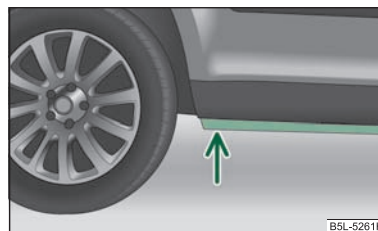

Fig. 158 Crossing bodies of water
- Determine the depth of the water when driving through bodies of water. The water can reach at the maximum the web on the lower sill of the vehicle ⇒ fig. 158.